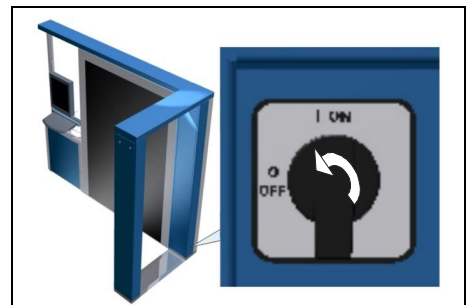

Fig. 25: Main switch
- ▷ Turn the main switch to the left into position OFF (see Fig. 25).